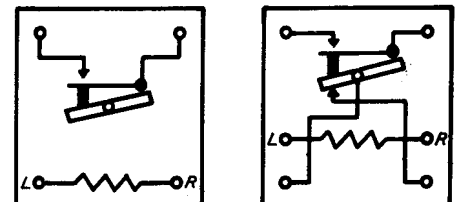

FIG. 9 - WINDING TERMINAL ARRANGEMENT AS VIEWED FROM THE REAR (TERMINAL SIDE) - 87 TYPE RELAY
2.10 On those relays having only a front contact, the front contact is indicated by 1 and the armature by 2 as viewed from the front of the relay. On those relays having a front and back contact the top spring is indicated by 1, the spring that is picked up by the armature stud by 2, the armature by 3 and the back contact by 4. The relative positions and designations of the winding terminals as viewed from the rear of the relay are shown in Fig. 9.